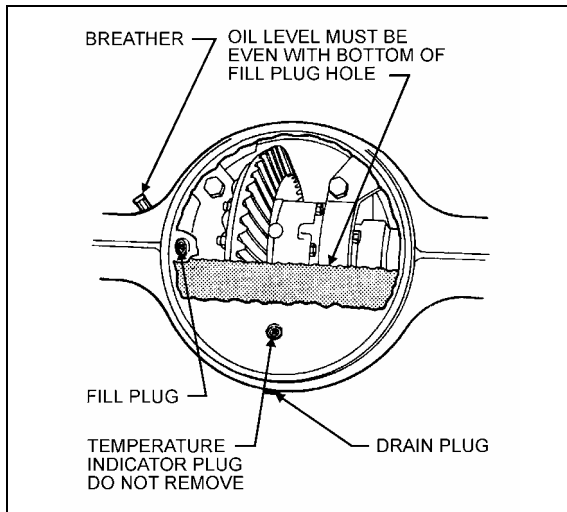

FIGURE 4: DIFFERENTIAL HOUSING BOWL 11007
Use Multigrade gear oil MIL-L-2105-D. Use the 75W90-gear oil for northern climates and the 80W140 for southern climates. In extreme conditions, or for better performance, fill with synthetic gear oil. Check oil level and add (if necessary) every 25,000 miles (40 000 km) or according to the fleet maintenance interval, whichever comes first (Fig. 4).
3. Clean the area around the fill plug. Remove the fill plug from the differential axle housing bowl (Fig. 4).